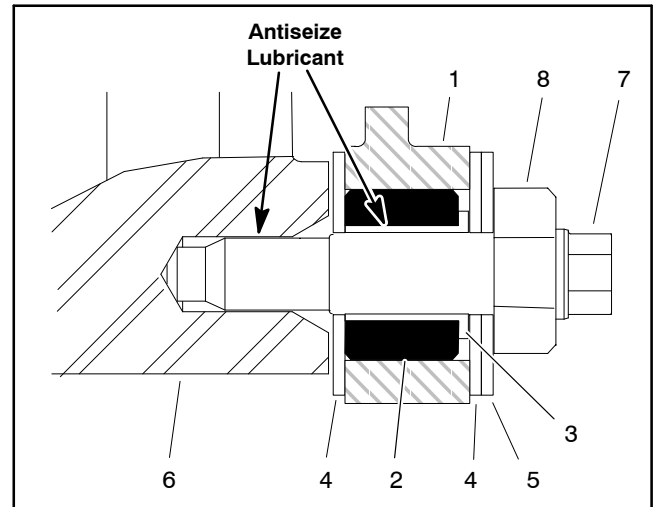

Figure 25
1. If rubber bushing was removed from either cutting unit side plate, install a new bushing. The bushing should be installed flush with the inside of the side plate (Fig. 25).
5. Position bedbar into cutting unit. Make sure that the top of each bedbar arm is between washer (item 4) and adjuster screw flange.
6. Position a plastic washer between bedbar and each cutting unit side plate (Fig. 25).
8. Tighten both lock nuts (item 10) until outside metal washer just rotates. Do not over tighten the lock nuts as this can distort the side plates and affect reel to bedknife contact, or in the case of cutting units with painted side plates, reel bearing adjustment. The plastic washer between the bedbar and side plate should be loose.
9. Tighten the lock nut (item 2) on each bedbar adjuster assembly until the adjuster spring is fully compressed, then loosen lock nut 1/2 turn.